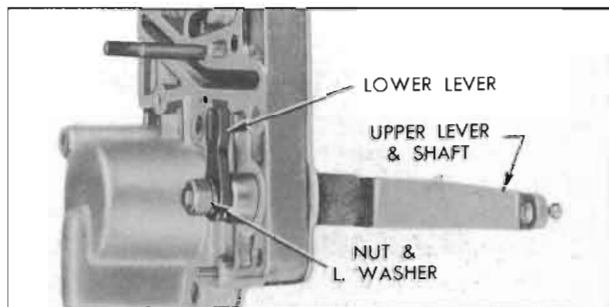

Figure 4-102—Installation of Valve Operating Levers
1. Remove nut and lockwasher which attaches the lower valve operating lever to the upper lever shaft and remove both levers. See figure 4-102.
5. Insert valve operating upper lever shaft through bearing in servo body. With upper lever pointing away from low servo, place lower lever on shaft as shown in figure 4-102, then install lockwasher and nut.